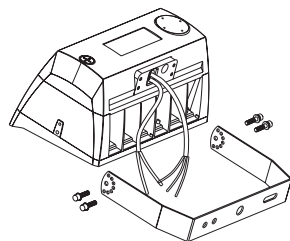

Figure 5
3. FLOOD MOUNTING (FM)
Step 1: First install two big screws. (Figure 5)